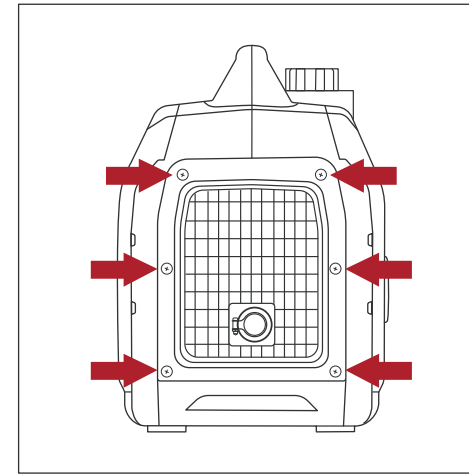

Fig.27
- 3 Remove the screws holding the muffler cover in place (see **Fig.27**).